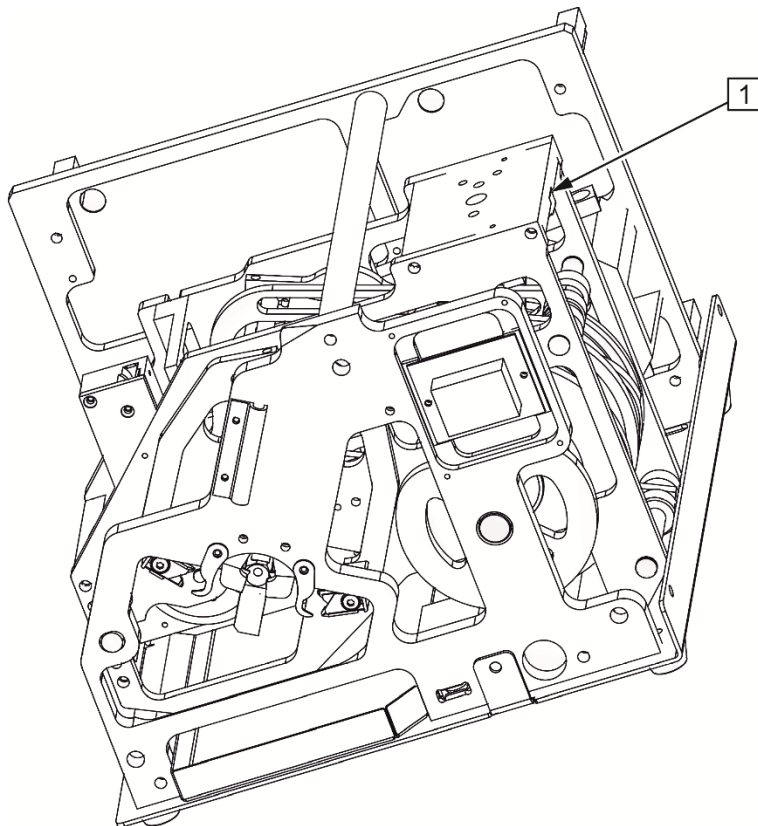

Fig. 16: Oiling insulation stripping stage setting
- Allow lubricating oil to flow into the gap (see fig. 16, item 1) between the setting wheel and the cover.